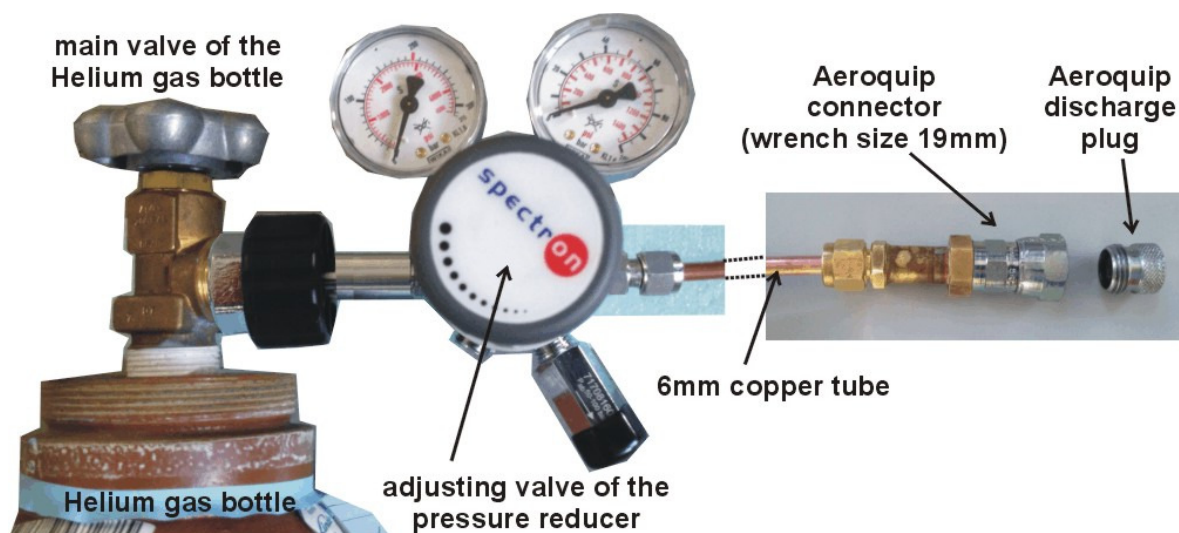

Figure 19: Accessories for refilling helium gas to the compressor
2. Connect the 6mm copper tube to the pressure reducer and the other side to the small Aeroquip connector (wrench size 14mm and 19mm) as seen in Figure 19.